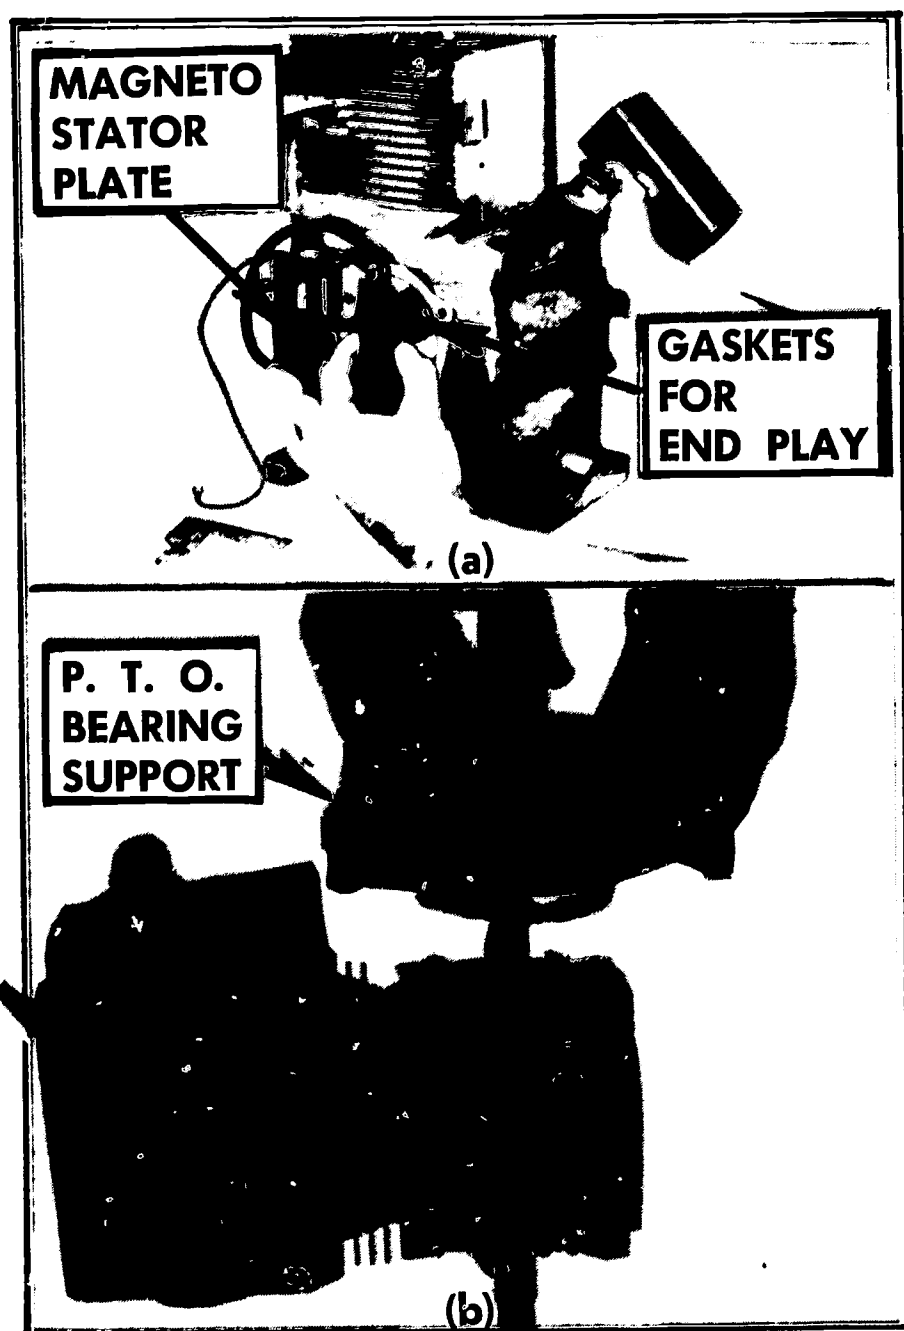

FIGURE 326. (a) Installing the magneto-bearing plate. (b) Installing the PTO-bearing support.
11. Install the magneto-bearing plate, or the PTO-bearing support (Figure 326).